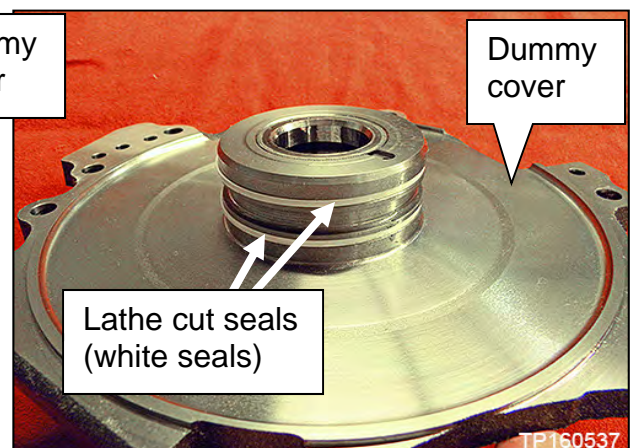

Figure 51
- Do **NOT** remove the lathe cut seals (white seals), Figure 51 from the dummy cover. These seals will be reused.